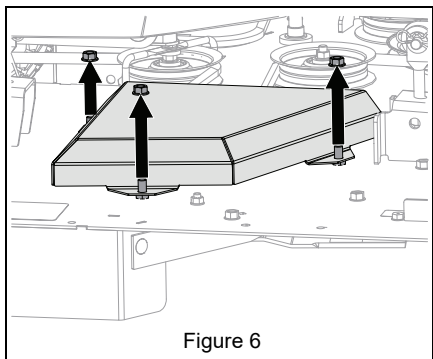

Figure 6
6. *60" Decks Only*: Remove three 3/8" center locking flange nuts retaining belt cover and remove belt cover. Retain all parts for operation without bagger. See Figure 6.